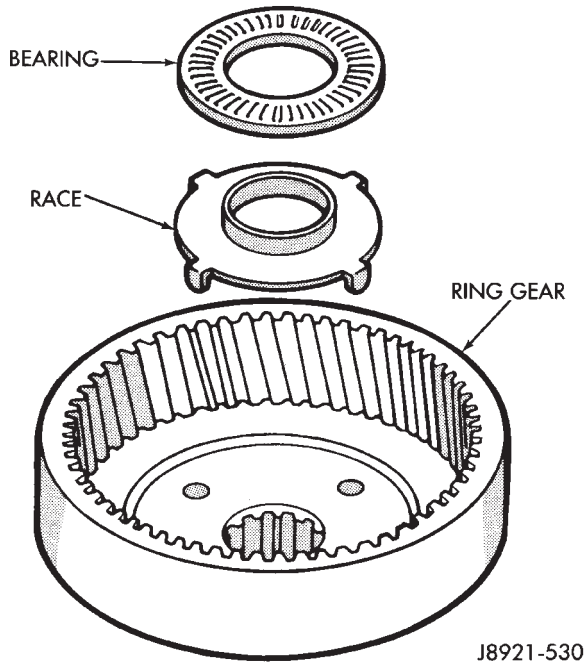

Fig. 10 Removing Ring Gear Bearing And Race
(12) Remove bearing and race from ring gear (Fig. 10).